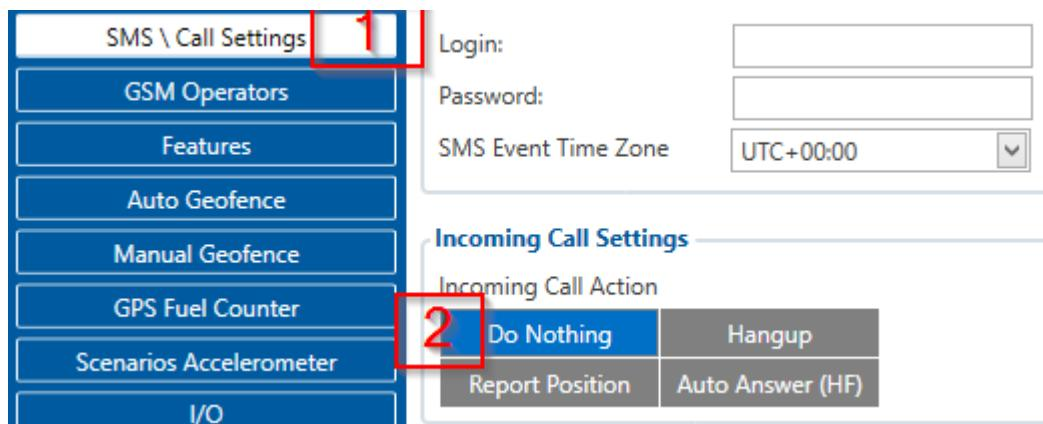

Figure 35 Incoming Call Action settings
9. Go to “SMS \ Call Settings” in left menu and set “Incomming Call Action” to “Do Nothing” visible at Figure 35.